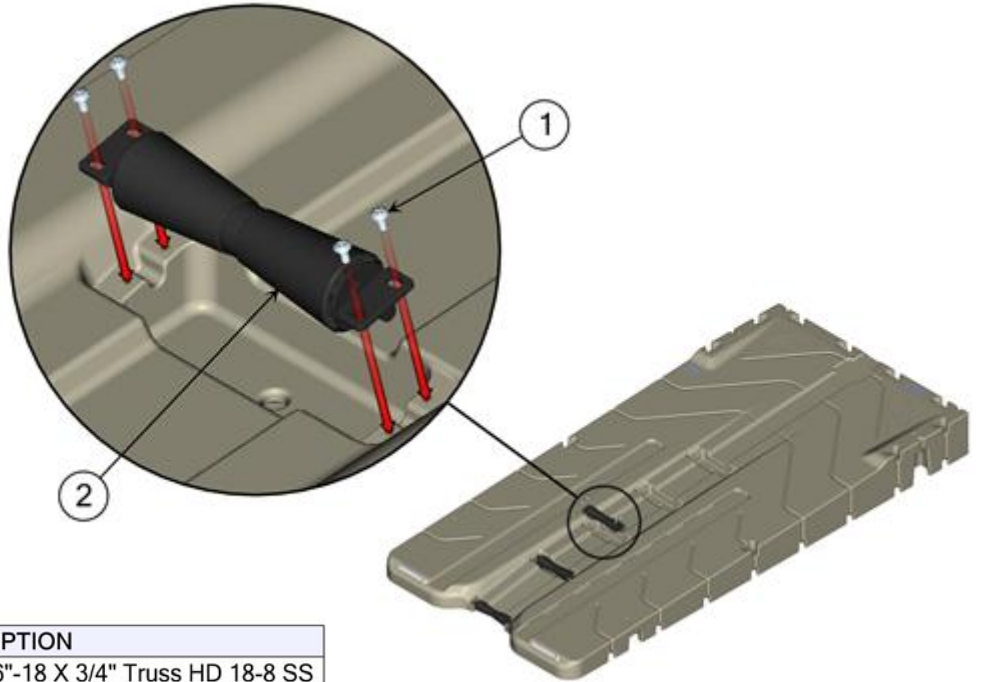

Figure 27.
2. Place roller (Item 2) in roller pocket with roller shaft down (Figure 27).